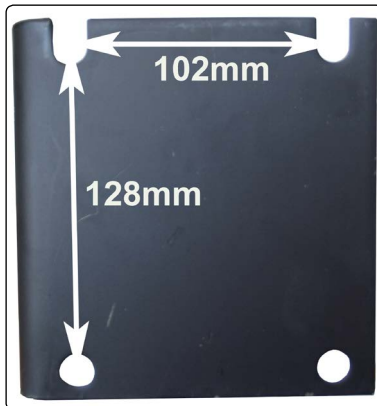
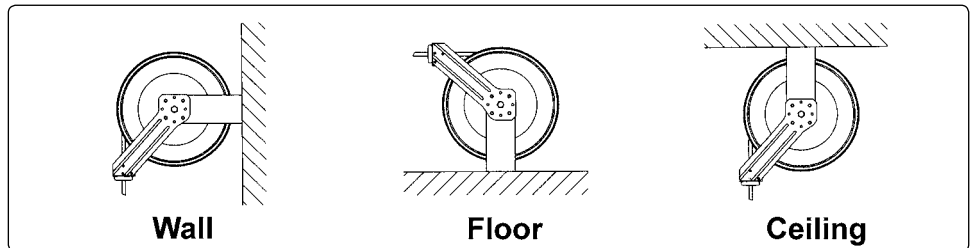

Fig.1
Fig.2
- 4.1.2. Screw or bolt the reel to the mounting surface (see fig. 1 for mounting hole dimensions). Adjust the guide arm (7) to suit the installation. Remove the four clamping nuts (42), washers (41) and bolts (40), reposition the arm and then replace the bolts, washers and screws. Typical examples are shown in fig. 2.